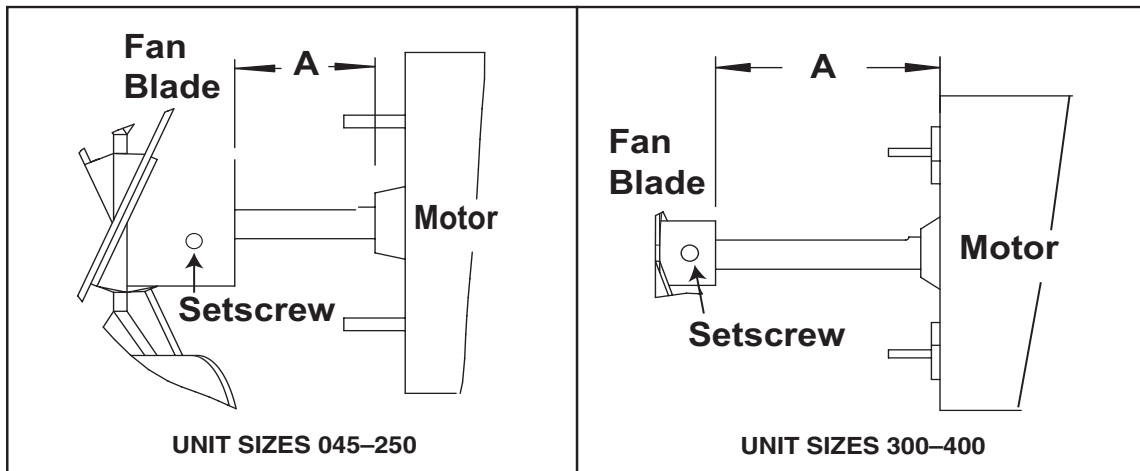

Figure 14. Fan Blade Positioning and Spacing
6. Ensure that fan blade is in proper position on shaft (see **Figure 14**) and that blades are properly spaced (refer to **Table 18**).
*See **Figure 14**.